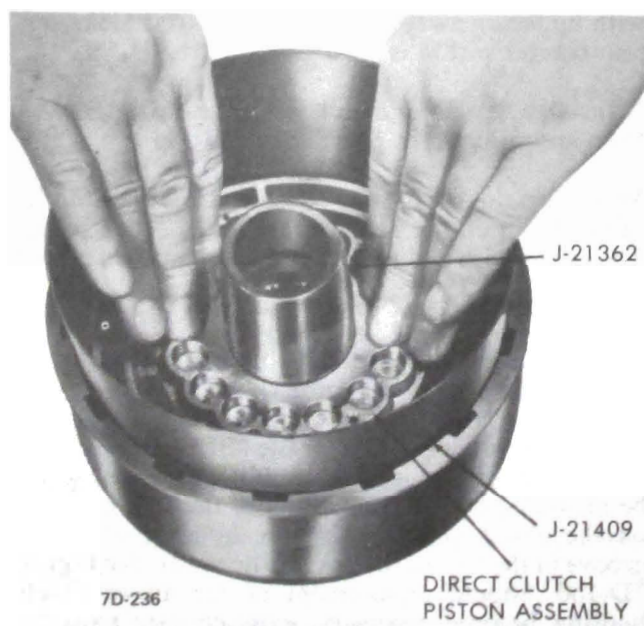

Figure 7D-161
4. Place Seal Protectors, Tools J-21362 - Inner, J-21409 - Outer, over hub and clutch housing and install clutch piston. See Figure 7D-161.
5. Install fourteen (14) clutch release springs into spring pockets in clutch piston, leaving two (2) pockets directly opposite one another with no springs.